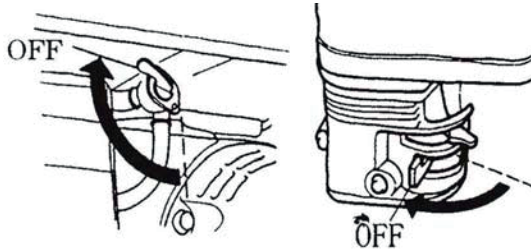

Fig . 36
6.2.4 Set the fuel switch to OFF position (Figure 36)